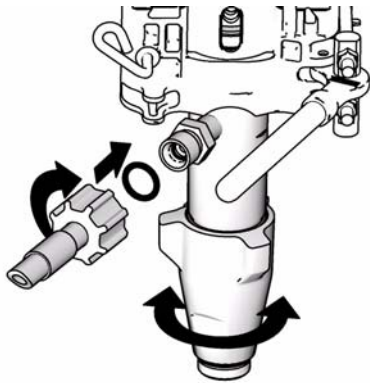

FIG. 22
- 4. FIG. 22. Close pump door and rotate latch into position. Do not tighten latch.
5. FIG. 22. Rotate pump to align with material hose. Connect material hose and hand tighten to 70 in-lb